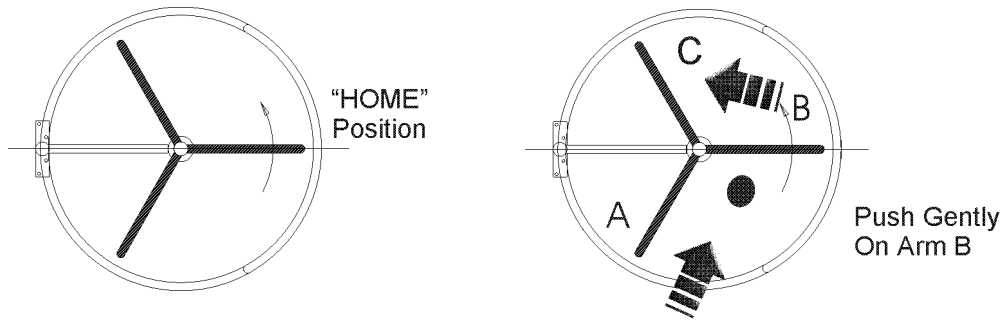

Figure 4.10 – Top view of turnstile showing home position and proper entry
The turnstile should always be in the “Home” position before access is requested (i.e. an access control card is presented to the card reader). If the turnstile is not in the “Home” position, the user should manually reposition the Roto Section (the arms) to the “Home” position before requesting access. See Figure 4.10.
3. Immediately step into the turnstile as shown in **Figure 4.10**.